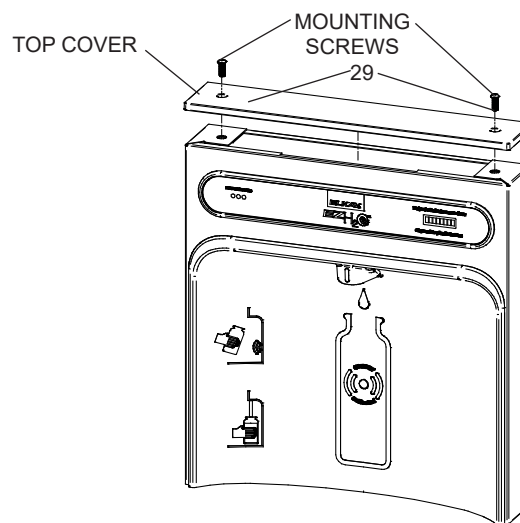

Fig. 9
- 1) **Remove two (2) mounting screws** with 5/32" Allen wrench holding top cover to Bottle Filler (See Fig. 9). Remove top cover. Note do not discard mounting screws, they will be needed to reinstall top cover.
- 9) **Once Bottle Filler is installed on wall plate tabs,** water line, wire(s) and power cord are installed properly, push top of Bottle Filler toward wall and line up top cover two (2) holes.
- 10) **Reinstall Top Cover on Bottle Filler** (See Fig. 9) with two mounting screws from step 1 above. Caution, do not over tighten screws.